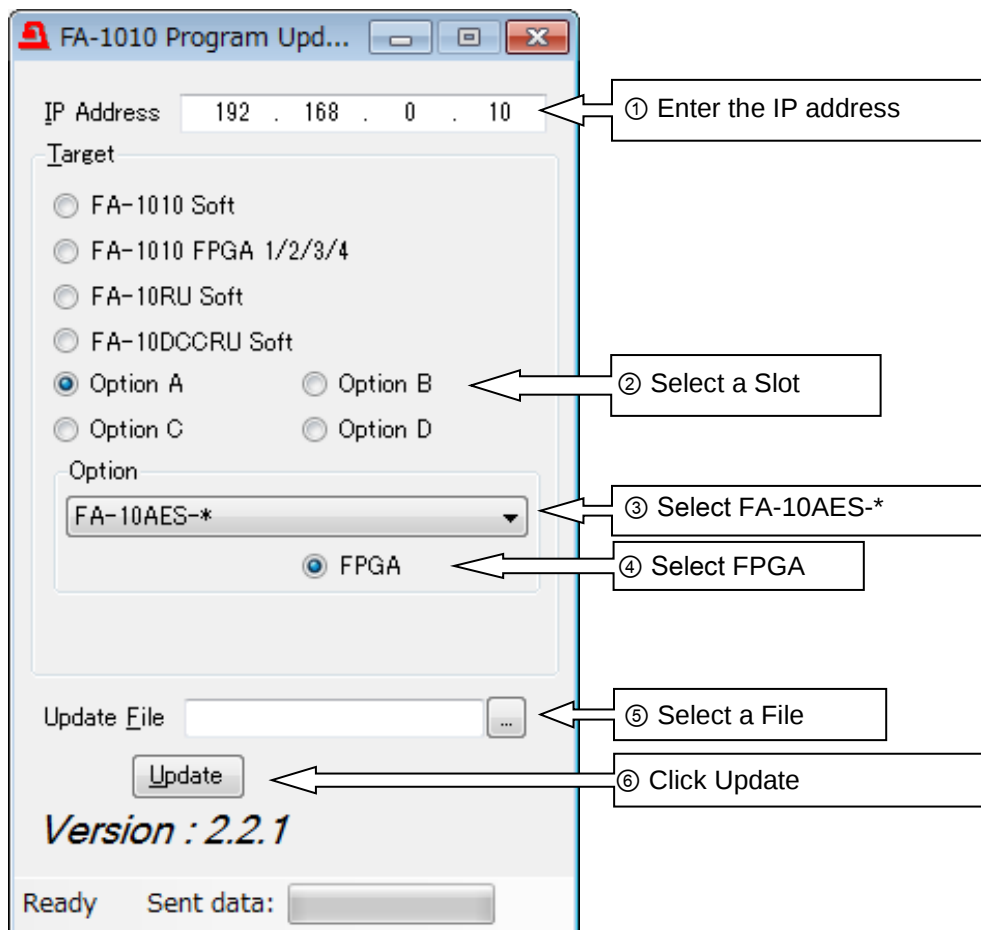

Fig. 21 FA-1010 Program Updater dialog
3. Enter the IP address (default IP address: 192.168.0.10)(Fig. 21 ①).
4. Check **[Option A]** (if FA-10AES-BL/UBL is installed in Slot) (Fig. 21 ②).
5. Select **[FA-10AES-*)** (Option) (Fig. 21 ③).
6. Select **[FPGA]** (Fig. 21 ④).
7. Select the latest FPGA data under **[Update File]** (Fig. 21 ⑤).
8. Click **[Update]** to start updating (Fig. 21 ⑥).